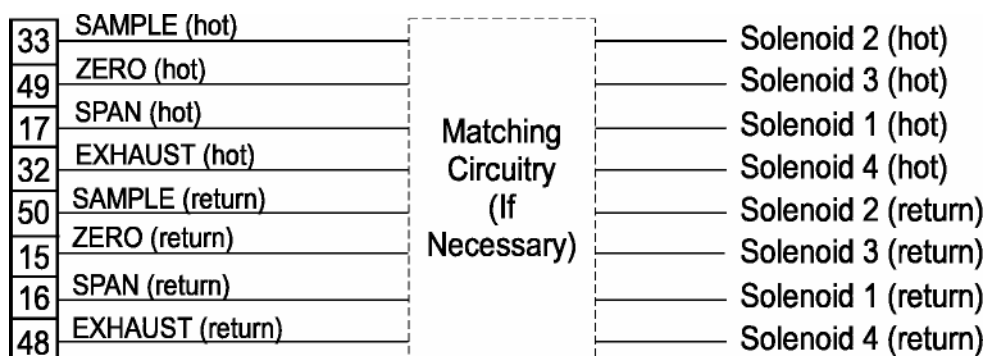

Figure 3-5: Remote Probe Connections
**Span:** Floating input. 5 to 24 V input across the + and – pins puts the analyzer into the Span mode. Either side may be grounded at the source of the signal. 0 to 1 volt across the terminals allows Span mode to terminate when done. A synchronous signal must open and close external span valve appropriately. See Figure 3-5
**Remote Valve Connections:** The 3000TA is a single-chassis instrument, which has no Remote Valve Unit. Instead, the Remote Valve connections are used as a method for directly controlling external sample/zero/span gas valves. See Figure 3-5.